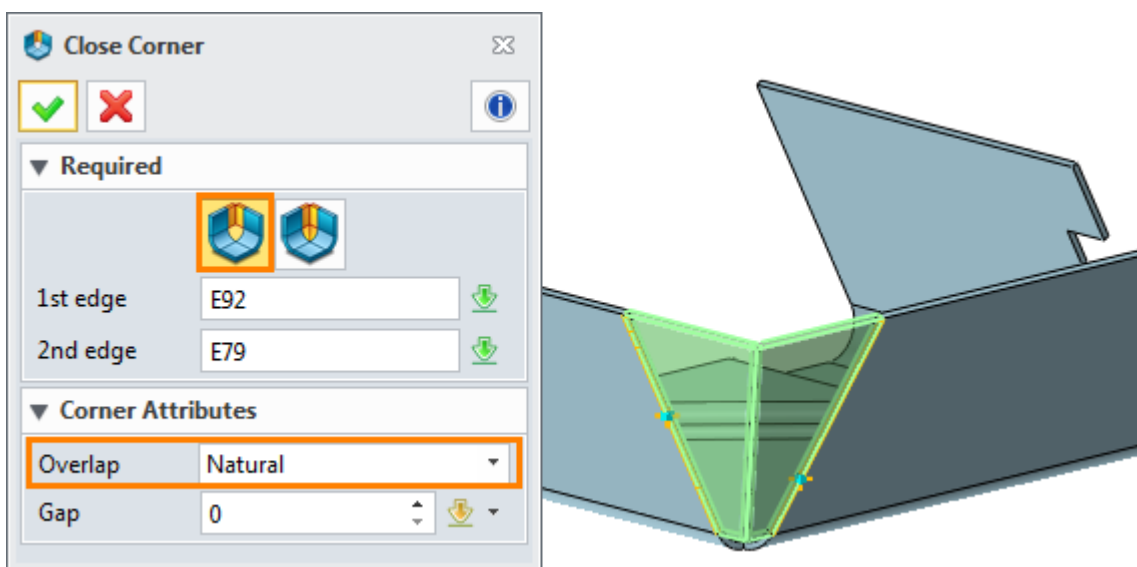

Figure64 Close Corner by Edge
STEP 02 Choose Close Corner command and apply the first type-Edge, as shown in Figure 64.